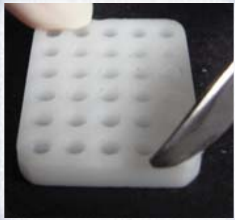

Figure 1
1. Select the start position and orient the recipient block. (Figure 1)